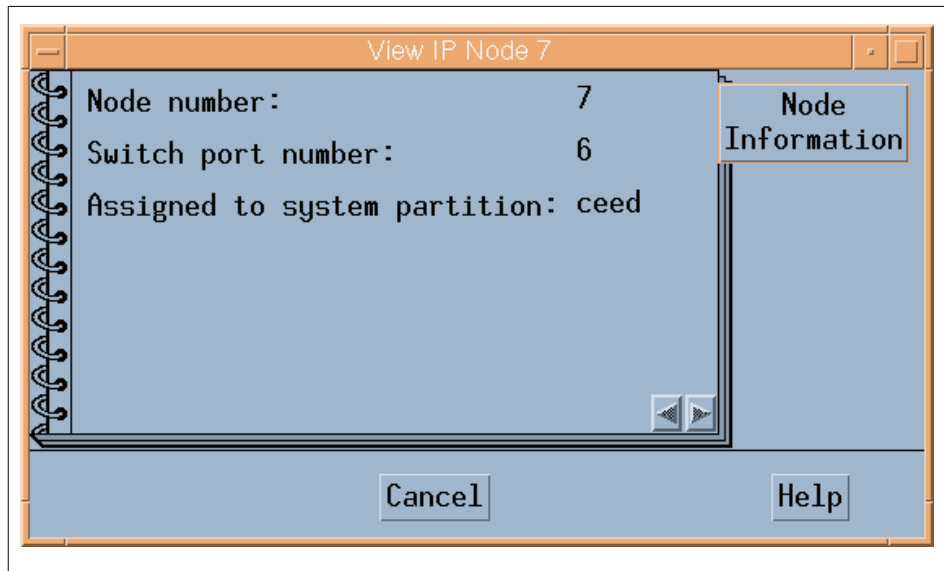

Figure 24. System Partition Aid Notebook
Figure 24 on page 58 shows the IP Node System Partition Aid Notebook. This notebook can be triggered by selecting the **Notebook** icon on the Hardware Perspective toolbar (2), or selecting **Action->Nodes->View** on the menu bar (1).